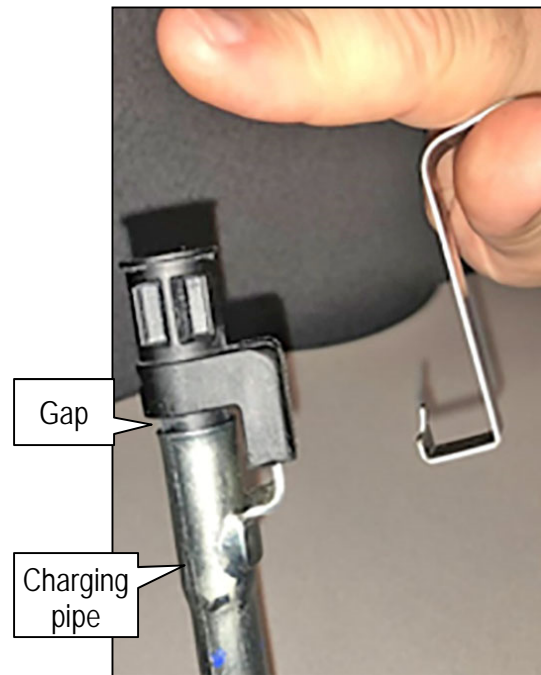

Figure 4
- Notice the gap between the cap and charging pipe in Figure 4.